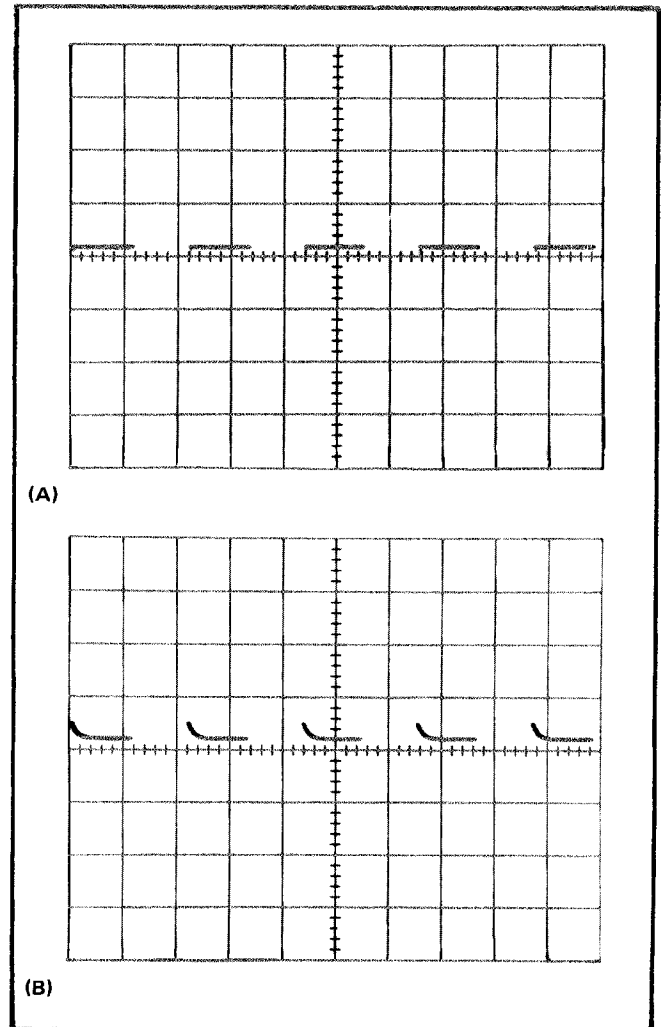

Fig. 5-2. Typical waveform showing (A) Cross neutralization properly adjusted, (B) incorrectly adjusted.
b. Check—The upper leading corner of the waveform, and note any aberration that occurs while switching the -INPUT AC-GND-DC switch from GND to DC. The waveform should appear similar to the one in Fig. 5-2. The aberration should not exceed $\pm 1\%$.
c. CHECK—The lower leading corner of the second cycle of the display and note any aberration that occurs while switching the +INPUT AC-GND-DC switch from GND to DC. The bottom leading corner of the waveform should appear similar to the one shown in Fig. 5-2. The aberration should not exceed $\pm 1\%$.